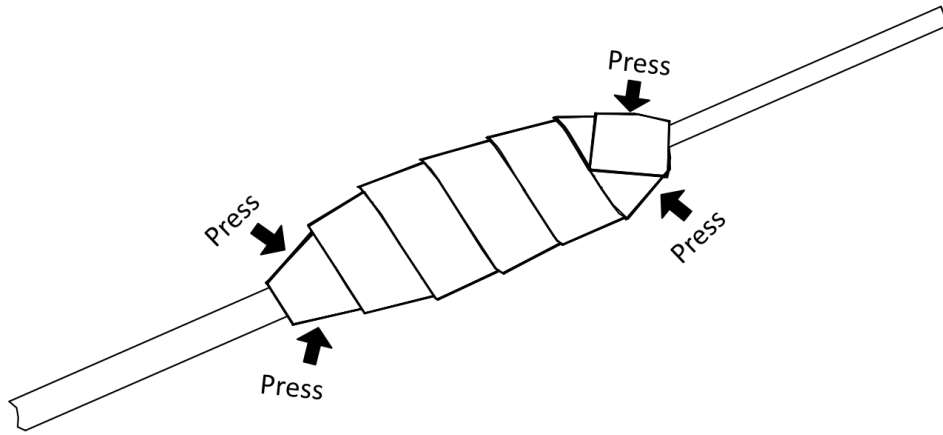

Figure 4-3 Compaction Waterproof Tape
Step 4 As shown in Figure 4-3, press the waterproof tape on both sides of the terminal to achieve insulation and sealing.